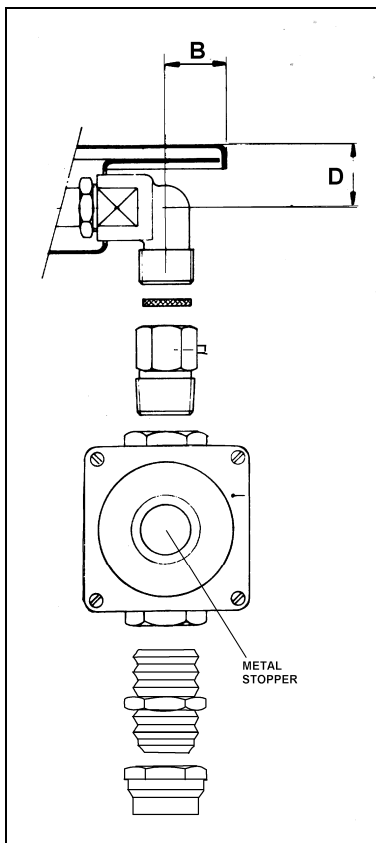

Fig.5A
4. For LPG models the gas supply is connected to the regulator which is supplied loose. The inlet connection has a 1/2" B.S.P. male thread. IT IS ESSENTIAL THAT THE ELBOW ON THE APPLIANCE BE HELD FIRMLY WITH A SPANNER WHEN CONNECTING THE SUPPLY. DO NOT OVER TIGHTEN. The regulated pressure For LPG is 11" w.c. (See Fig. 5A).
5. For NG models the gas supply is connected to the regulator which is supplied loose. The inlet connection has a 1/2" B.S.P. male thread. IT IS ESSENTIAL THAT THE ELBOW ON THE APPLIANCE BE HELD FIRMLY WITH A SPANNER WHEN CONNECTING THE SUPPLY. DO NOT OVER TIGHTEN. The regulated pressure For NG is 4" w.c. (See Fig. 5A).
6. For gas inlet position of appliance refer Fig 5A and 5B. After installing the gas supply and making all connections check thoroughly for possible leaks. Turn all control knobs on the unit to 'OFF' position. Open the valve on the gas supply. Using a soap and water solution check each gas connection one at the time, by brushing the solution over the connection. Presence of bubbles will indicate a leak. Tighten the fitting and re-check for leaks. If it is not possible to correct the leak, replace fitting. Under no circumstances use matches or flame for checking leaks.
Before carrying out any maintenance work, disconnect the appliance from the gas and electric supply. For Natural Gas fit regulator assembly described in Fig. 5A. For LP Gas fit assembly described in fig. 5A.